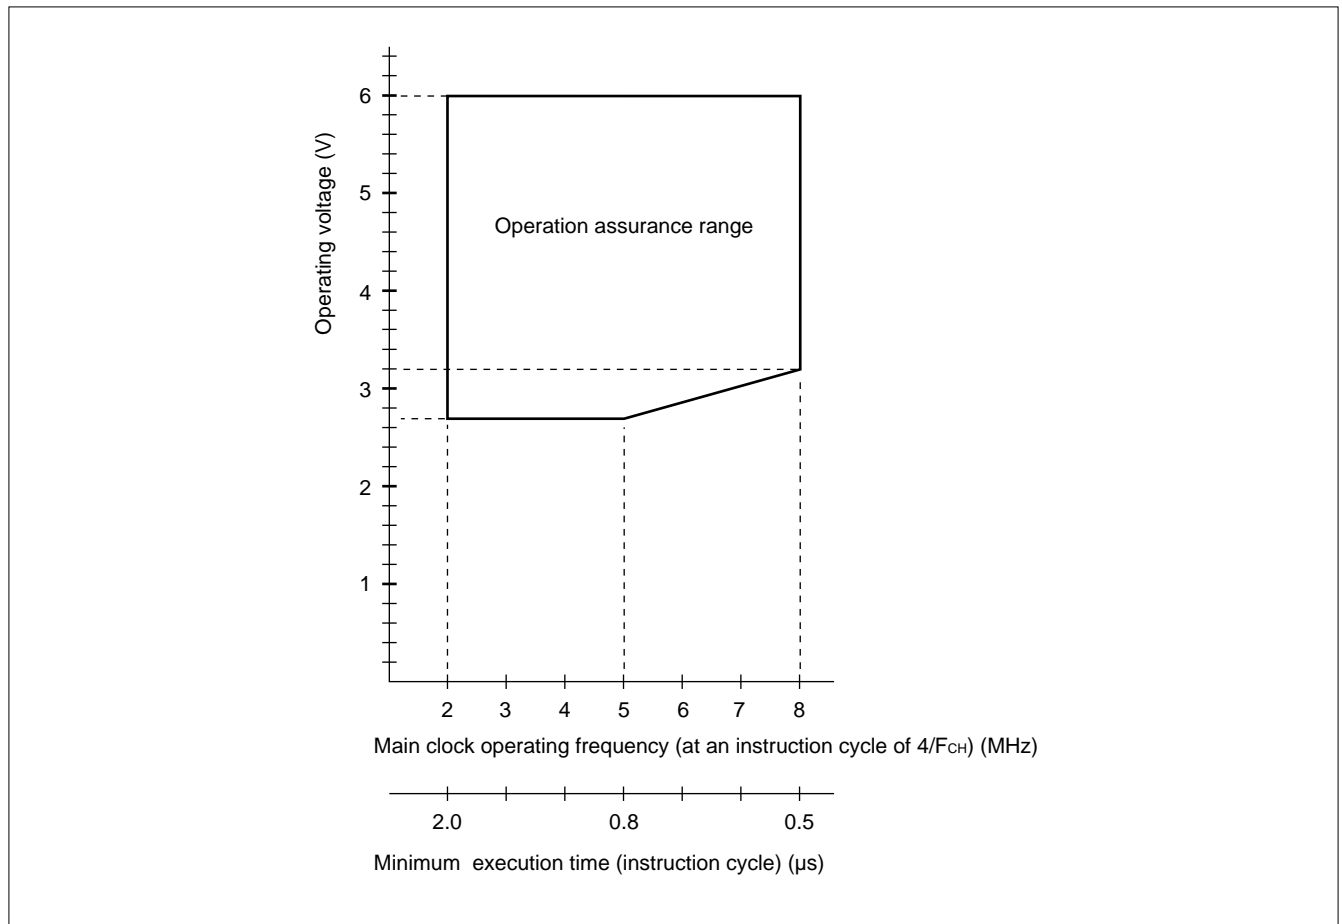

Figure 1 Operating Voltage vs. Main Clock Operating Frequency
* : These values vary with the operating frequency and analog assurance range. See Figure 1 and "5. A/D Converter Electrical Characteristics."
Figure 1 indicates the operating frequency of the external oscillator at an instruction cycle of $4/F_{CH}$. Since the operating voltage range is dependent on the instruction cycle, see minimum execution time if the operating speed is switched using a gear.